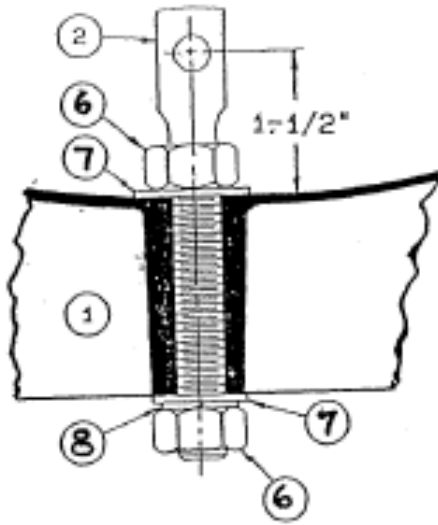

FIGURE 2.1-1
5. Place the clevis assembly through the hole in the reflector petal from the front and secure with the 1/2" flat washer, lock washer, and nut (item #'s 7, 8, & 6) as shown in figure 2.1-1. Tighten these nuts hand tight only at this time.